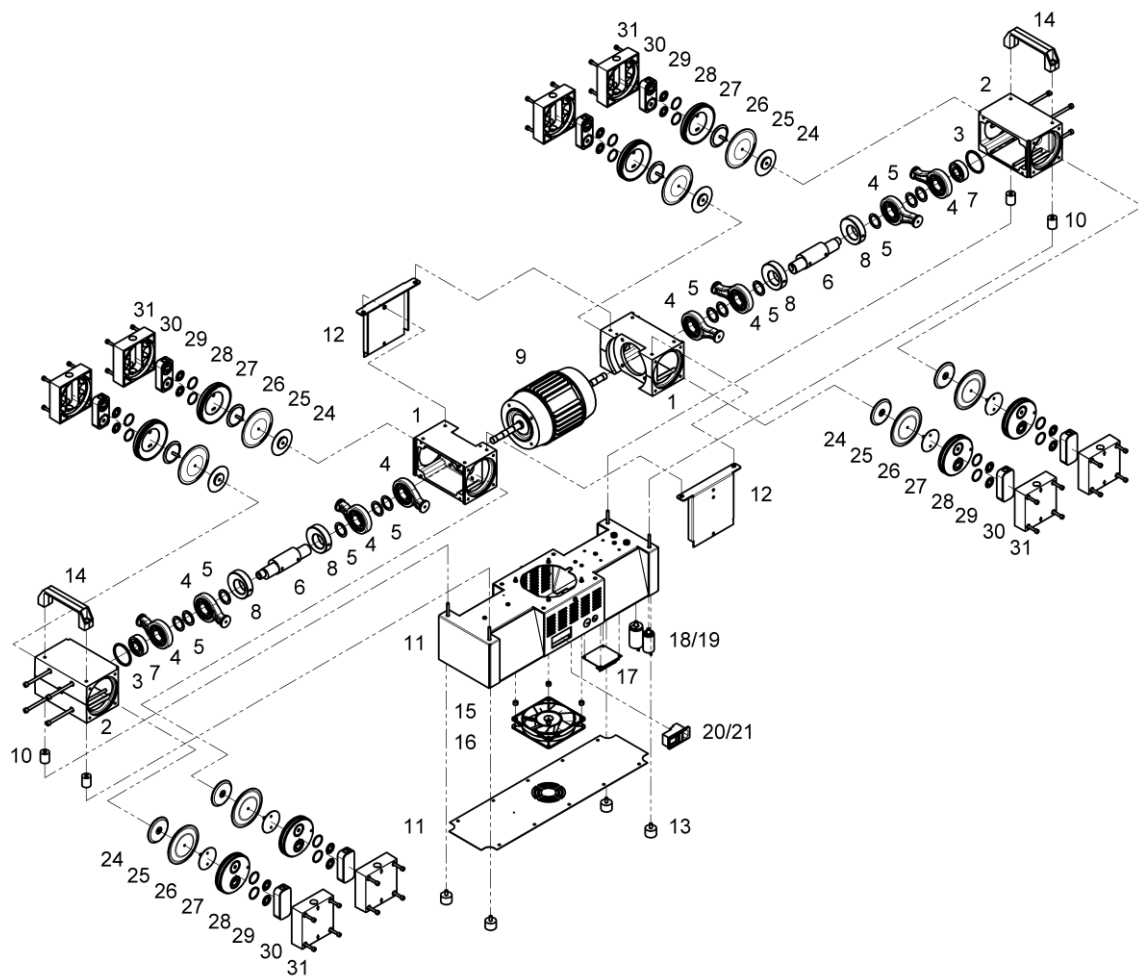

Fig. 4 Exploded view - Basic structure (Diaphragm pumps 8-headed)
3. Bring the piston rod (see Fig. 4,6) and the diaphragm **(7)** into the central position.